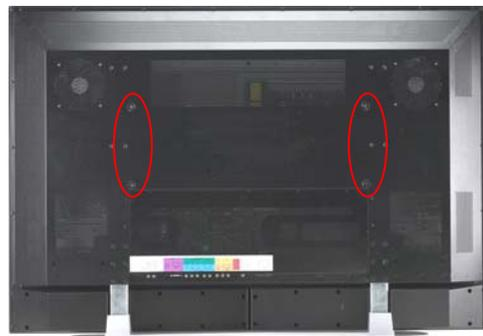

Figure 3.4b
5. Now, the display can fit securely to a mount (sold separately) by utilizing the mounting holes in the center of the back panel of the display (see Figure 3.4b). Please make sure to read the directions of your specific wall mount to properly hang the P50 HDM.